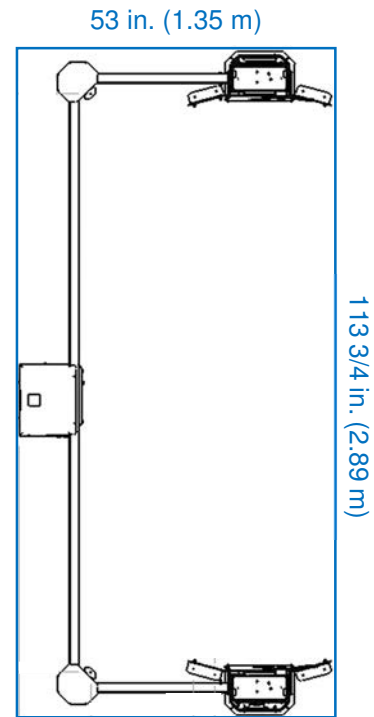

Figure 30
- ◆ The foundation must be levelled with a maximum tolerance of 1 in. (2.5 cm) over a 113 3/4 in. (2.89 m) by 53 in. (1.35 m) rectangle (Figure 30). The annual variation in levelness for the same area cannot exceed 1/4 in. (6 mm).